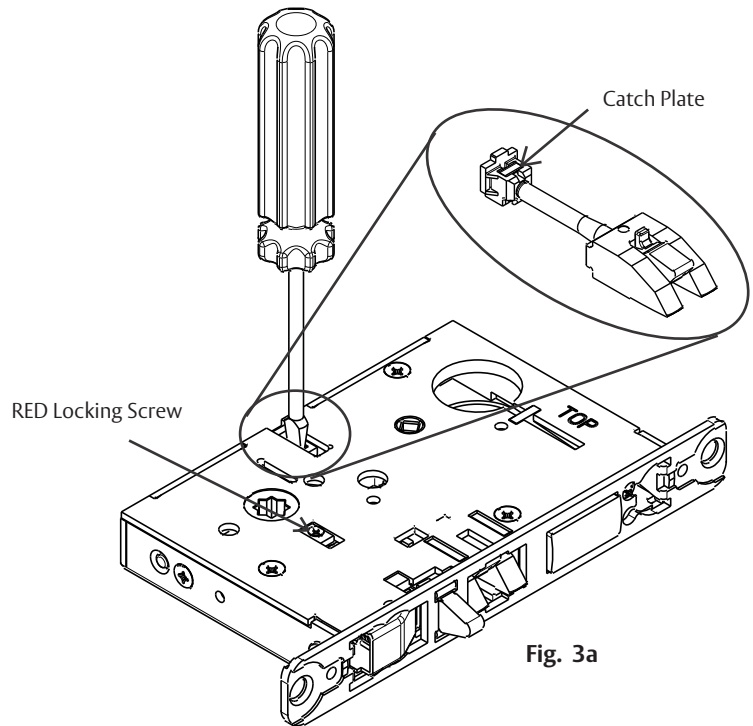

Fig. 3a
Step 1) Move the red locking screw to side of lock body being locked (Fig. 3a)
Step 2) Push in latch then depress catch plate with screwdriver (Fig. 3a)